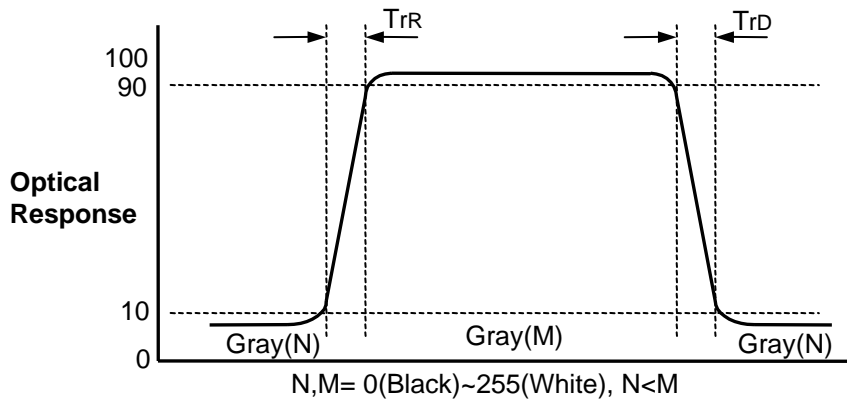

FIG. 3 Response Time (Reference data/ measured by non scanning backlight)
4. Response time is the time required for the display to transition from G(N) to G(M) (Rise Time, Tr_R) and from G(M) to G(N) (Decay Time, Tr_D). For additional information see FIG 3. ($N < M$)